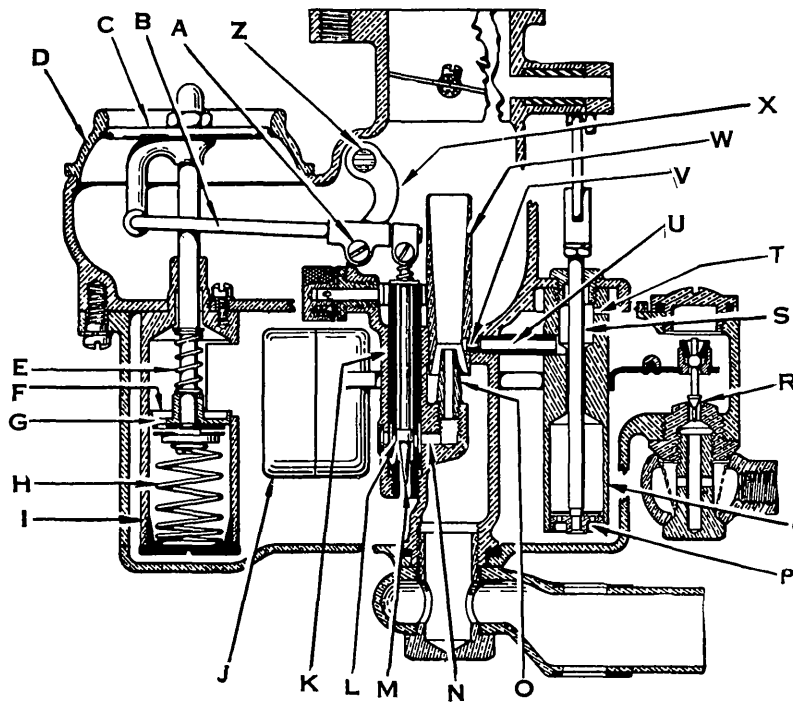
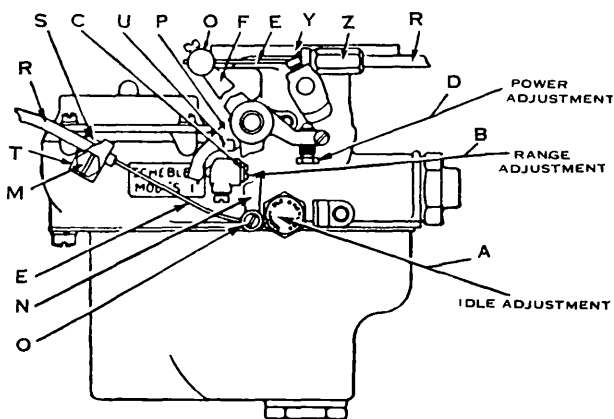

Fig. 1
Fig. 5
**Action at Low Speeds.**—The Model S is an air valve carburetor having two air inlets. The fixed air opening is through the venturi (W) Fig. 1 and is very small, furnishing barely enough air to enable an engine to idle slowly. Due to the small opening through the venturi, the velocity of the air passing through it is very high, even when the engine is idling. This enables it to pick up gasoline at the nozzle (O) and atomize it thoroughly. Due to the venturi, the suction on the gasoline at the nozzle is quite strong, making it possible to control the mixture very accurately and to get positive and reliable action at low speeds.
**Capacity at High Speeds.**—The auxiliary air valve (C) Fig. 1 is closed for idling and wide open for full power. It is very large, making it possible to handle tremendous amounts of air at the smallest suction. This ability to handle either very large or very small air flows is what is referred to in the term "long range carburetor."
**Gasoline Passageway.**—The gasoline enters the float chamber through the valve (R) Fig. 1 and the level is governed by the float (J). After leaving the float chamber, the gasoline is governed by the gasoline needle (M) at the point (L). It then passes through the cross drill (N) into the nozzle (O) and on into the air stream through the venturi (W).
**How the Mixture Ratio is Maintained.**—The method of maintaining the correct fuel-to-air ratio is as follows: The motion of the air valve is transmitted to the needle valve lift lever (B) Fig. 1 which rotates about the fulcrum point (A), giving to the gasoline needle (M) a definite part of the air valve motion. Thus, the flow of gasoline will tend to vary in direct proportion to the air, no matter how much or how little air is being used.
The Model S carburetor is designed to give maximum power and maximum economy at the same adjustment. This may seem impossible at first but it is accomplished as follows: A very lean mixture is required to give the most miles per gallon while considerably more gasoline is needed for full power. When driving at medium speed or on a smooth road, comparatively little power is needed and economy and smooth performance are the important requirements. Under these conditions, the throttle will be only part way open and the fulcrum point (A) will be in the position corresponding to maximum economy. When full power is desired the throttle is opened wide. This will cause the cam, Fig. 5, to depress the cam tappet screw (D), thus moving the fulcrum point (A) Fig. 1 over toward the air valve, and lifting the gasoline needle (M). This will make the mixture a certain per cent richer just enough to change over from full economy to full power. These adjustments can be independently made on any engine so that they can both be exactly right. The carburetor can therefore be adjusted so as to give
(T) Fig. 1 is placed at the required height so that any excess gasoline pumped into (S) will run back into the float chamber and will not be wasted. While necessarily large, the pump is therefore not wasteful.
The amount of gasoline required for acceleration varies with the size, shape and temperature of the intake manifold. The Model S pump can be adjusted to any manifold. The rate of delivering the extra gasoline can be changed according to the size of the metering hole (V) Fig. 1 and the total amount delivered according to the height of the overflow (T). The amount of extra gasoline used in acceleration is quite small but it makes the difference between positive action on the one hand and an uncertain and delayed response to the throttle on the other.
**The Dash Pot.**—The gasoline dash pot (I) Fig. 1 is used to prevent the fluttering of the air valve (C) when the engine is pulling hard at a low speed. Under these conditions, the fluctuations of pressure are slow but are of small magnitude so that the spring (E) is strong enough to hold the valve (F) firmly in place and prevent any fluttering. Suppose, however, that the car is driven at a high speed, the throttle closed for a moment and then suddenly opened again; an immediate response will be desired from the engine. Under these conditions, a heavy vacuum will be established in the manifold during the coasting which will be transferred to the air valve when the throttle is open. Under this heavy force, the spring (E) will collapse and the air valve will drop as though the dash pot were not there; allowing the engine to respond with a full thrust from the very first. The little valve (G) is provided to allow the air valve to close rapidly.
**Dash Control for Starting.**—The Model S has no choke. It delivers to the engine whatever air is needed and meters the required fuel into that air. When a very rich mixture is needed as in starting a cold engine, the dash control lever (F) Fig. 5 is pulled down by means of the wire (E). This will rotate the fulcrum lever (X) Fig. 1 about the shaft (Z) toward the air valve (C) and give the gasoline needle an initial lift from an increased percent of the motion of the air valve. The velocity of the air through the venturi (W) is ample to pick up and atomize whatever gasoline may pass through the nozzle (O), so that a mixture many times as great as normal may be effectively supplied to the manifold of the engine; and starting be made correspondingly easy. As the engine speeds up, the effect of the initial life of the needle will diminish so that the percent of excess gasoline will decrease but not disappear at high speeds. This corresponds to the requirements of an engine as a greater percent of excess gasoline is required to run a cold engine slowly than fast.
**Accelerating Pump.**—When the throttle is opened suddenly, a certain portion of the gasoline will lag behind the air. This will cause the mixture reaching the cylinders to be temporarily leaner than the accurately metered mixture leaving the carburetor. If the carburetor is adjusted lean for economy, this temporary impoverishment of the mixture would cause the engine to misfire were it not for the accelerating pump (Q) Fig. 1 which causes the mixture leaving the carburetor to be temporarily enriched during acceleration.
When the throttle is opened, the piston (P) Fig. 1 of the accelerating pump is raised lifting gasoline into the upper chamber (S). From here, the gasoline flows through the passageway (U) to the venturi (W) where it mixes with the air entering the carburetor. No gasoline at all will pass through (U) except immediately following an opening of the throttle; so that the accelerating pump acts only during periods of acceleration.
The capacity of the pump is large compared to the amount of gasoline used for acceleration. This is for a definite reason. When the throttle is opened, just a few degrees from the idling position at low speed, the engine will be running under full load and a full load charge of accelerating gasoline will be needed. The accelerating pump must therefore be able to deliver the full load charge of gasoline with just a few degrees of motion. On the other hand, no greater charge than this is needed when the throttle is opened wide. For this reason, an overflow passage (V), Fig. 1, is provided near the top of the pump cylinder to permit the excess gasoline to return to the carburetor bowl.
**Idle Adjustment.**—Turn the idle adjusting knurl (A) Fig. 5 to the right for a lean mixture and to the left for a rich mixture. To check the idle adjustment, warm up the motor thoroughly and by this we mean to have a hot motor. Then close the throttle, retard the spark all the way if car has manual spark control and then adjust idle stop screw so that motor will not idle less than five miles per hour on the road. After you have made the proper idle adjustment so that the motor runs at the correct speed, then proceed to check the idle adjustment as follows: Turn the idle adjusting screw (A) Fig. 5 to the right (clockwise) turning slowly, watching the motor fan at the same time and con-